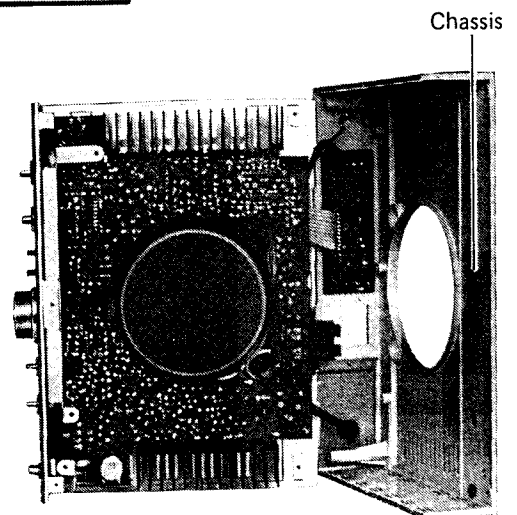

Figure 8.
3. Lift up the chassis as shown in Fig. 8 and remove the chassis.